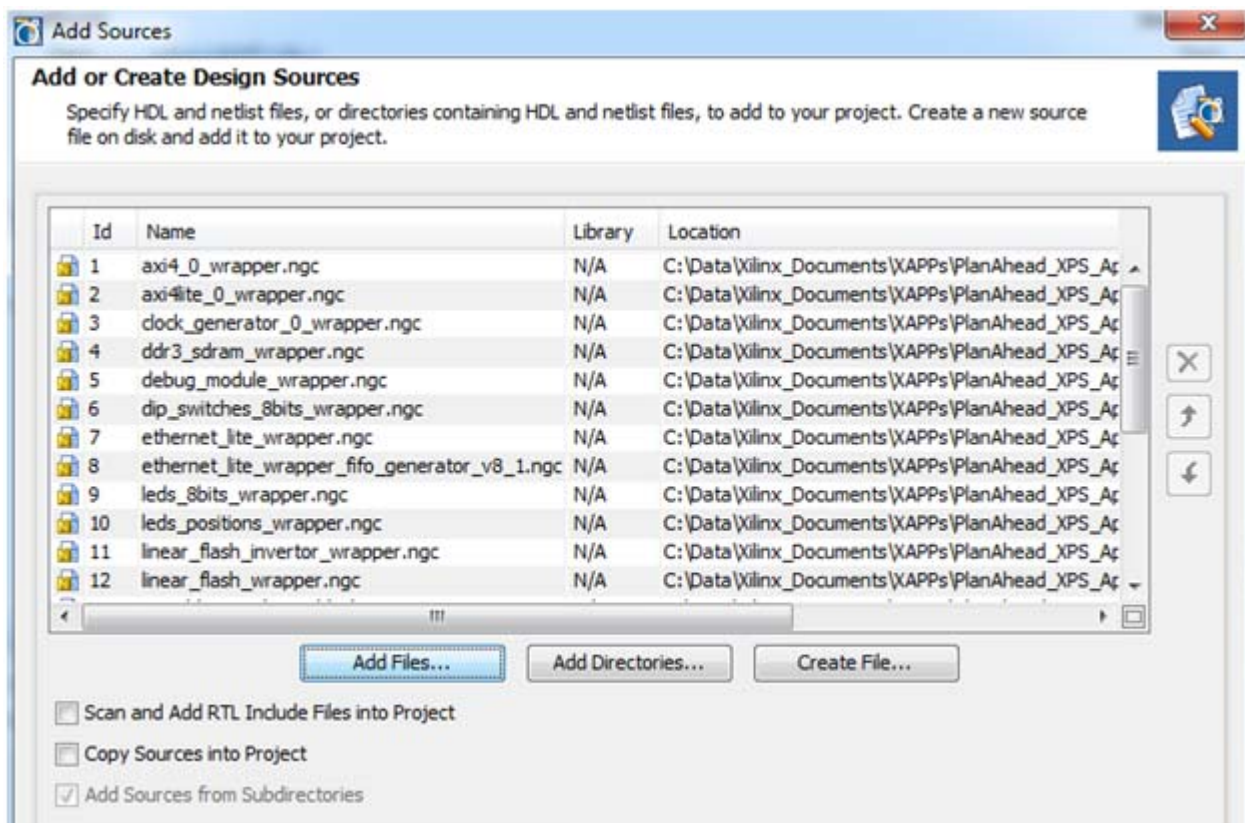

Figure 3-33: Add Sources
2. Select the **Add or Create Design Sources** option, and click **Next**. The Add Sources dialog box opens, allowing you to add the source files as shown in Figure 3-33.